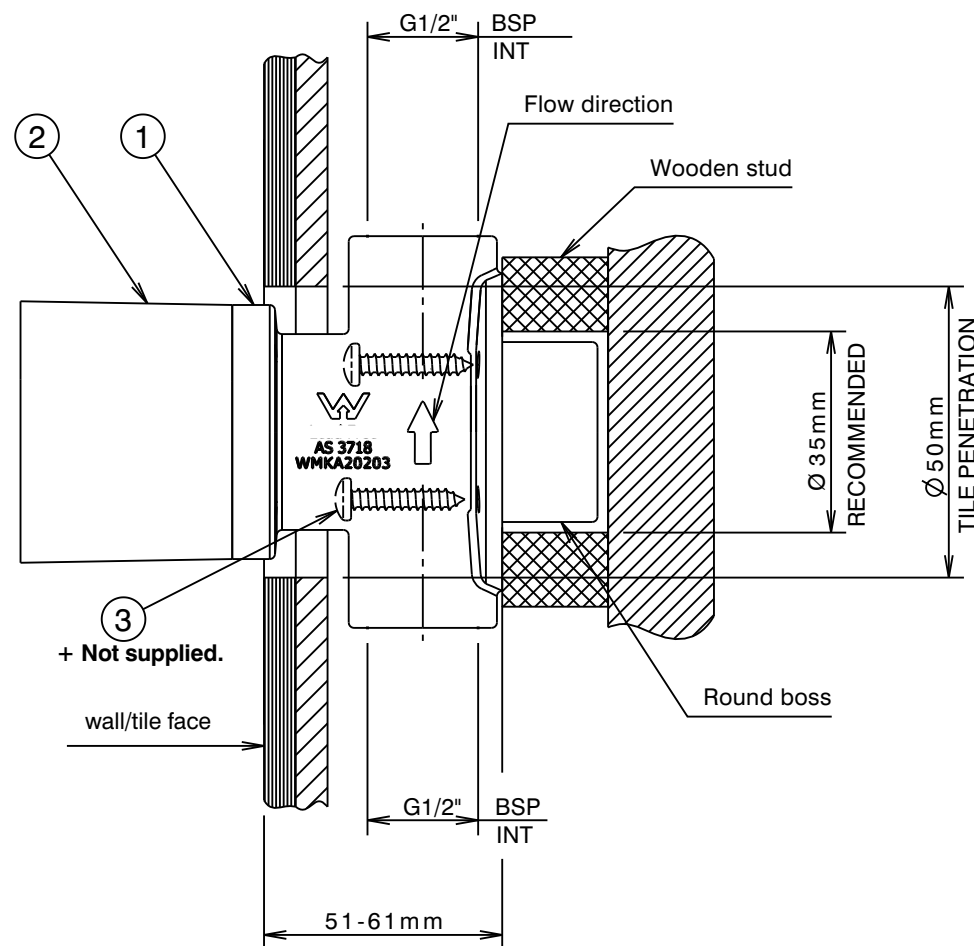

Fig. 1
Installation (Fig. 1)
- 1) Ensuring flow direction arrow vertically point up as shown in Fig. 1, align round boss of body with the drilled hole in the wooden stud, fit mixer body (1) onto wooden stud and secure using screws (3) (not supplied) through the holes in the body.